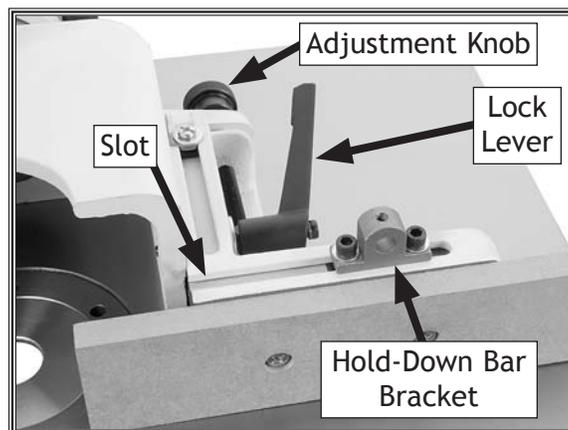

Figure 26. Hold-down bar bracket installed.
2. Loosen the fence mount lock lever, then rotate the adjustment knob clockwise until the top fence slot clears the fence assembly housing (see Figure 26).